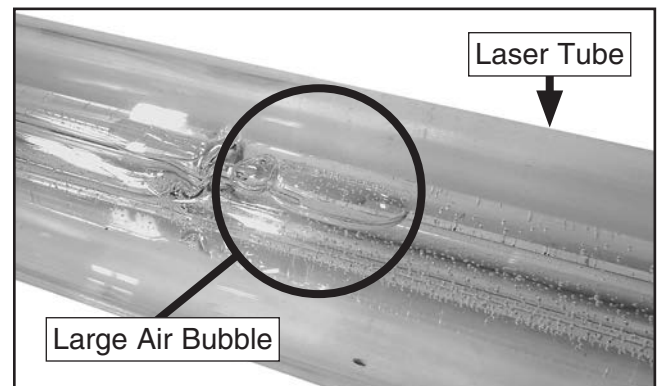

Figure 89. Example of large air bubbles when priming laser tube.
14. Once all air pockets and large bubbles are released (see **Figure 89**), laser tube is primed with cooling water.